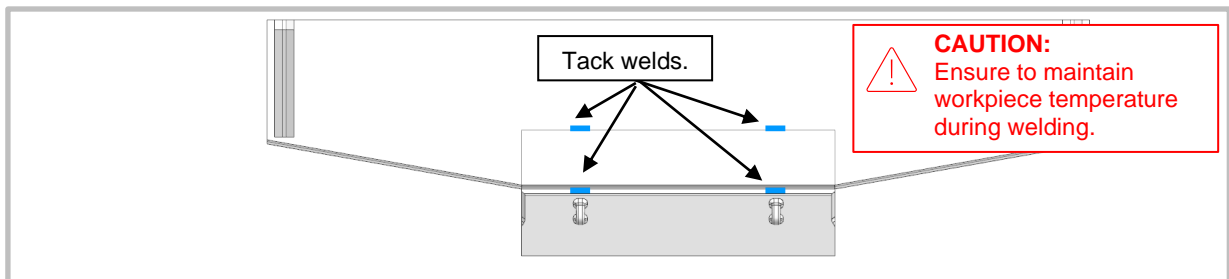

Figure 6 Center segment placement (image is for reference purposes only).
Step 2 :Place Half Arrow center segment on the lip first and secure it with the help of clamps and tack weld them into place as shown in Figure 6. If the lip has no center segment, move to the next step.